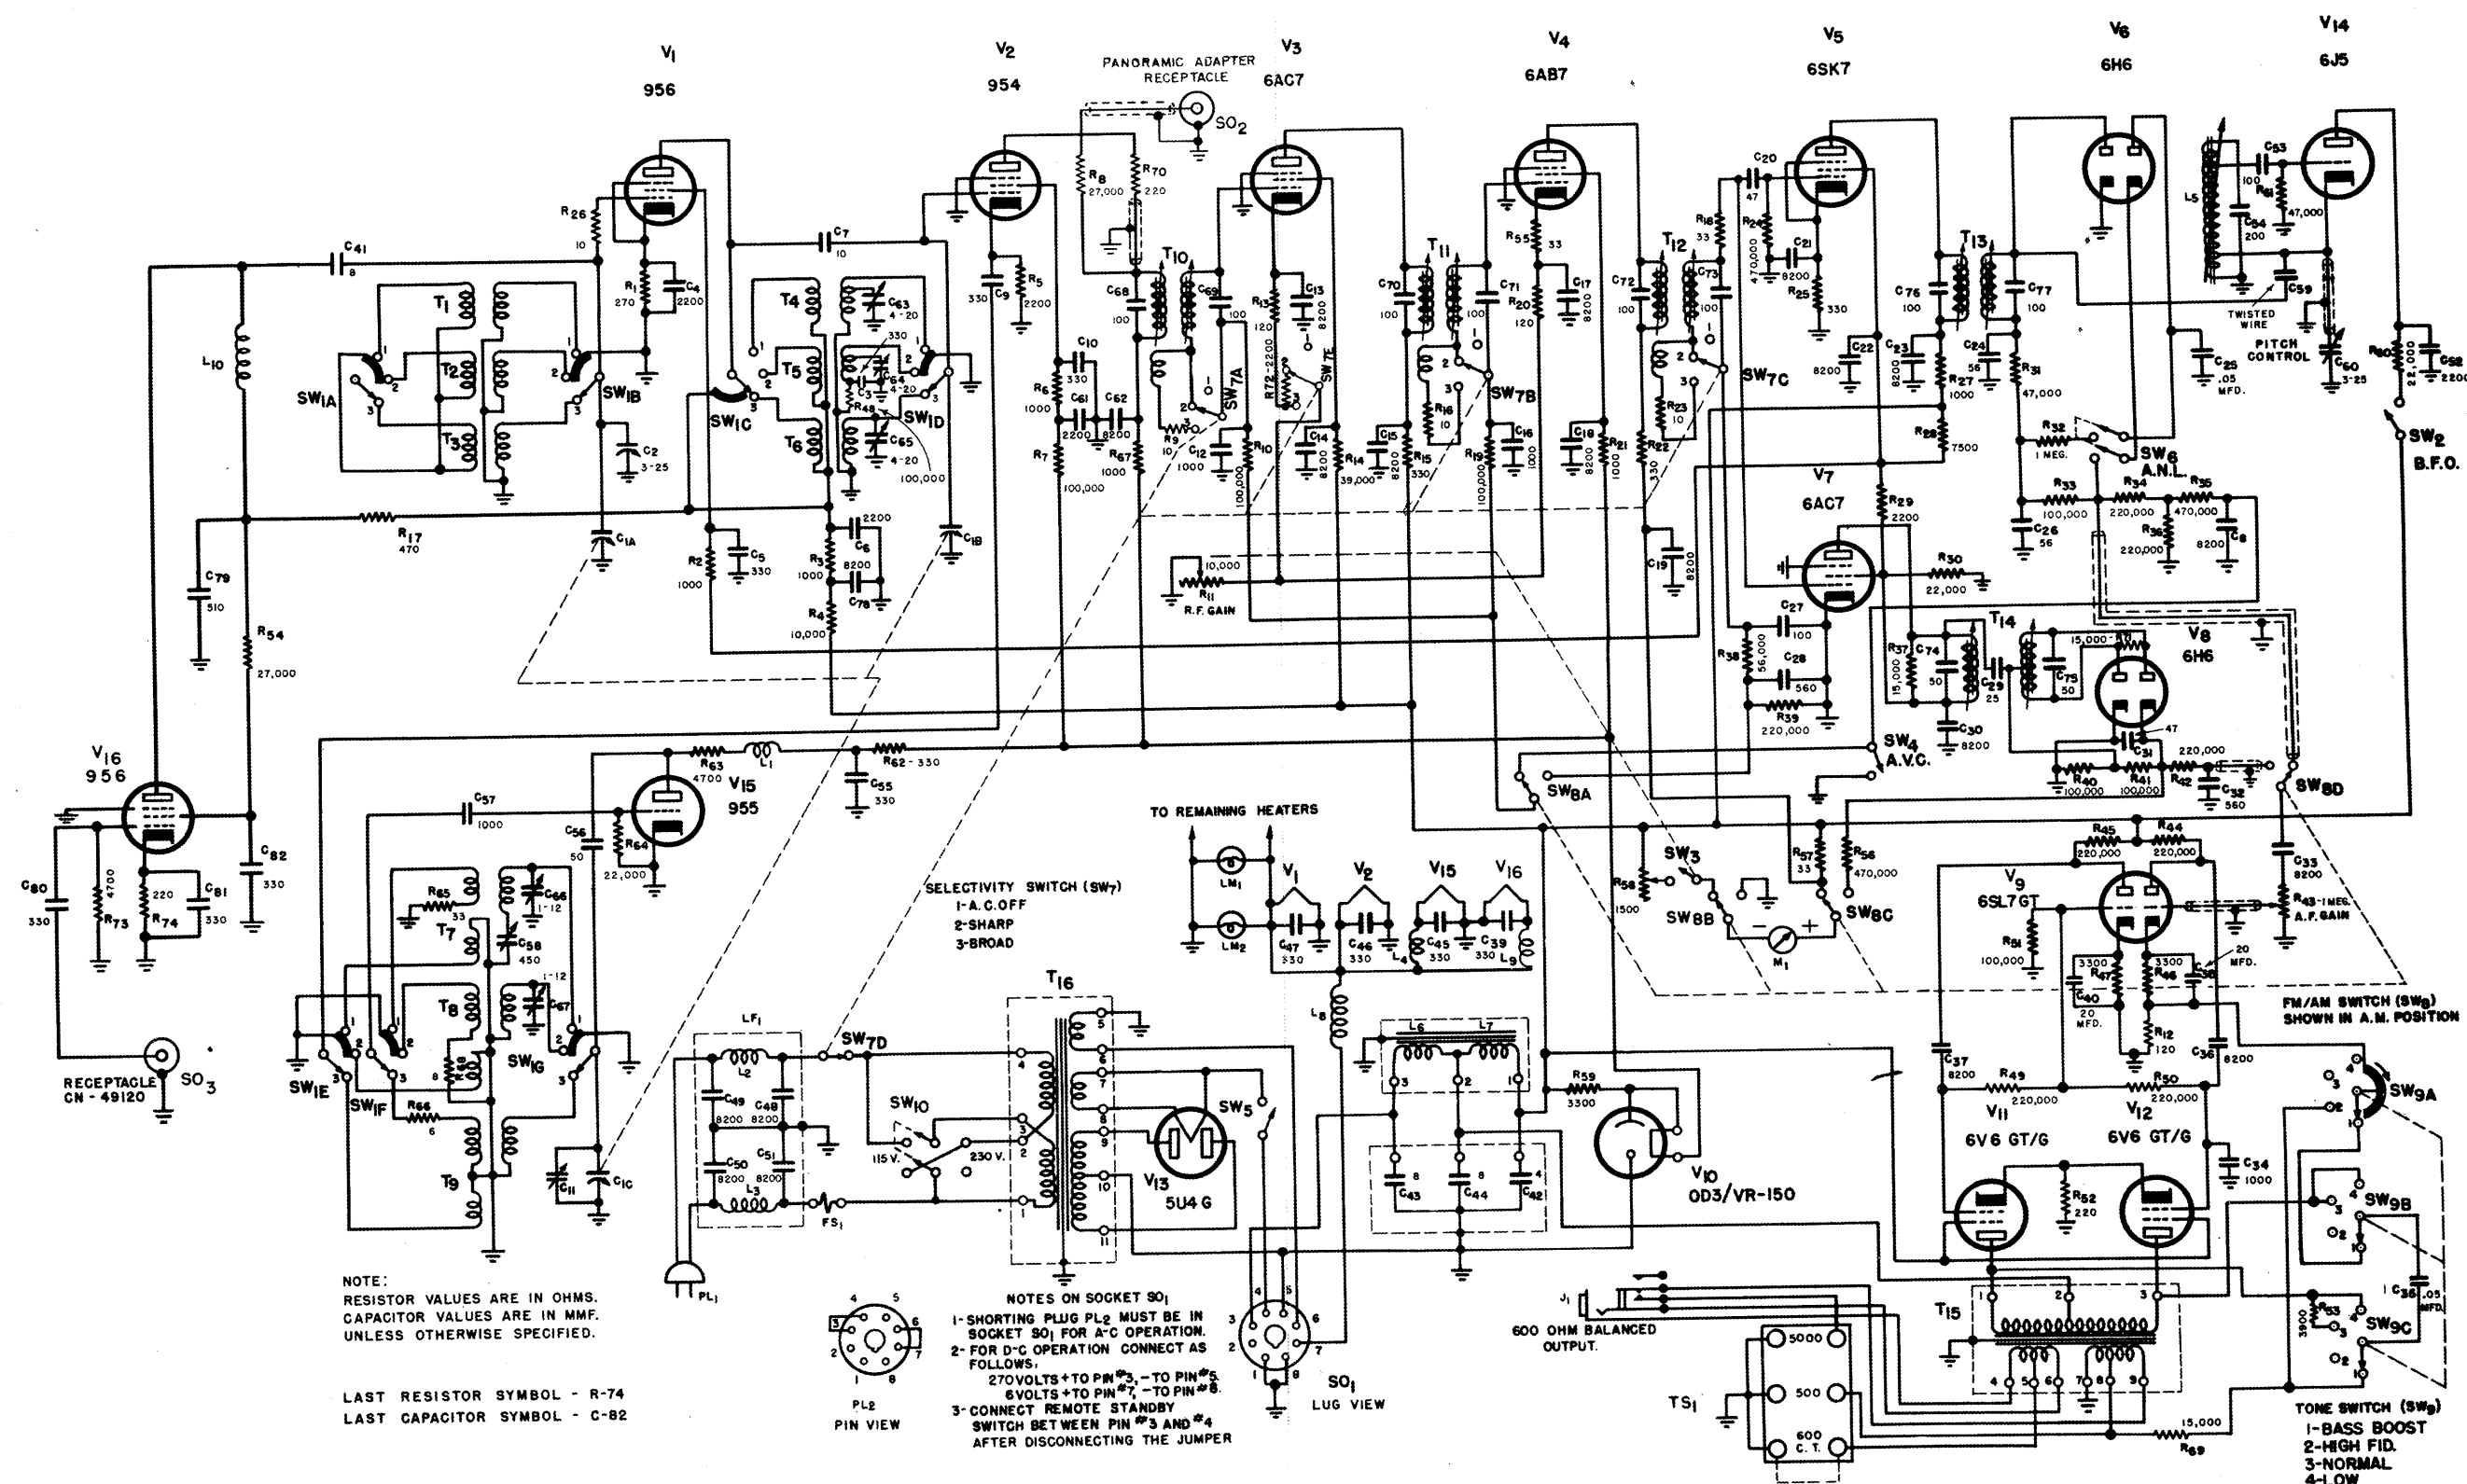

Figure 3. Radio Receiver CHL-46298, Schematic Diagram
A-2. RECEIVER UNIT.— Radio Receiver CHL-46298 is a ultra-high frequency super-hetrodyne radio receiver capable of receiving both amplitude modulated (A-M) and frequency modulated (F-M) phone signals and continuous wave (C-W) telegraph signals. Automatic volume control (A-V-C) and automatic noise limiter (A-N-L) circuits are incorporated. See figure 3 for the schematic circuit diagram.
A-3, CIRCUIT DESCRIPTION.--Refer to the schematic diagram, figure 3. Since the circuit functions of bands 1, 2 and 3 are essentially identical this discussion will describe the circuit with the BAND SWITCH (SW_{1A} to SW_{1G}) set at band 3, as shown in the schematic diagram. The BAND SWITCH (SW₁) selects the proper radio frequency, converter, and high frequency oscillator transformers to tune a given frequency range.
a. **A-C Operation.** - If the receiver is to be operated from an a-c line, check the setting of the 115/230-volt change-over switch (SW₁₀), located on the chassis deck to the left of the power transformer, and see that it is set for the proper line voltage. Also see that the plug (PL₂) on the rear apron of the receiver is in place. This is necessary to provide continuity in the power circuits. Refer to figure 3.